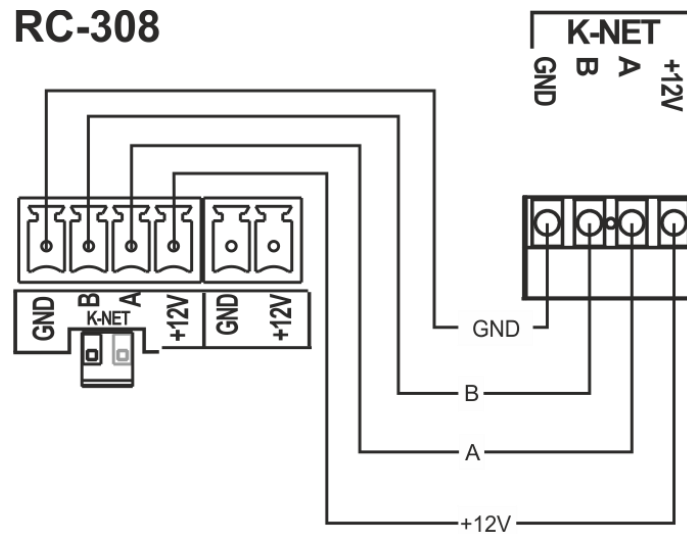

Figure 9: K-NET PINOUT Connection
The K-NET port ⑨ is wired as shown in Figure 9.